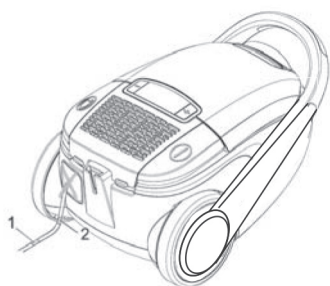
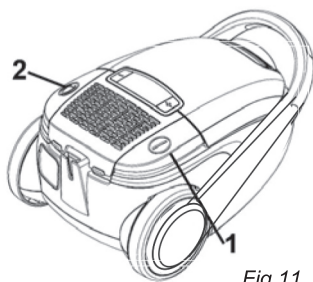

Fig. 10
Fig. 11
2. cord until the yellow marking is visible (Fig. 10/1)
If the red marking shows (Fig. 10/2) retract the cord by pressing the retract button to pull in the cable (Fig. 11/2) up to the yellow mark again. Otherwise the cord might break. There is danger of an electric shock.
3. Switch on the vacuum cleaner with the on/off switch (Fig. 11/1).